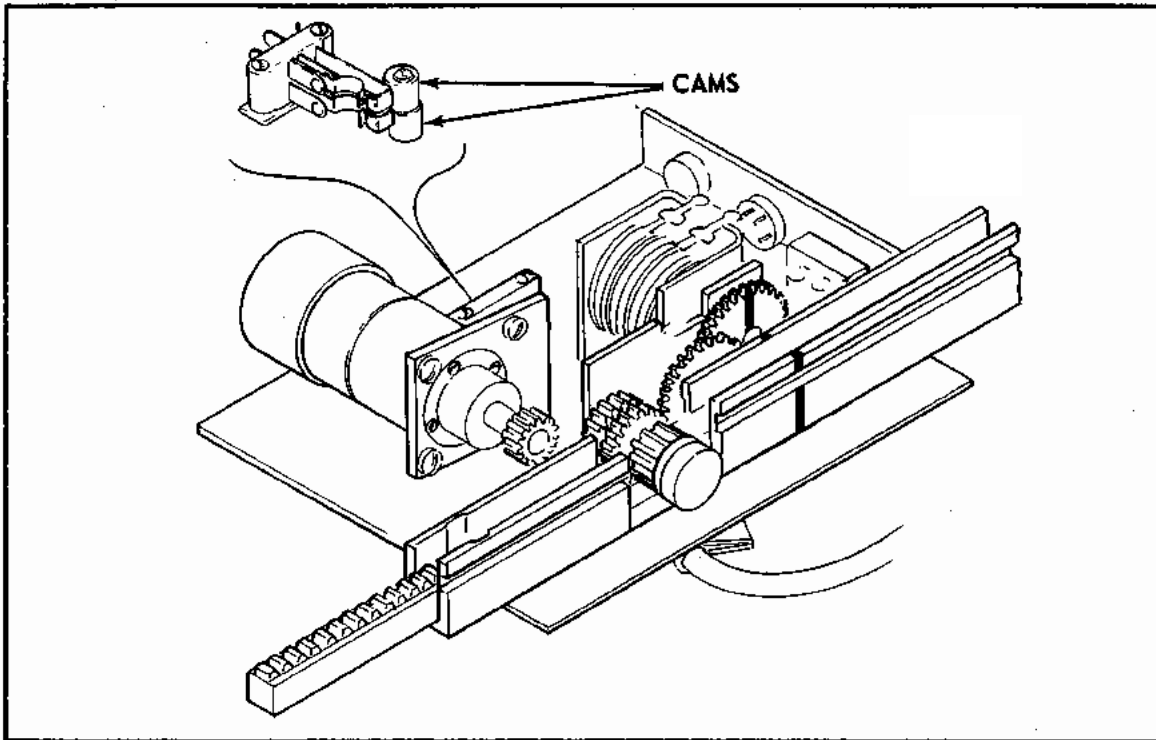

Figure 10-3. Switch Adjustment Cams
**10-5. ADJUSTMENT OF PITCH SERVO SELECTOR SWITCH AND PITCH AUTOPILOT SERVO MOTOR SWITCH. (Refer to Figure 10-3.)**
- a. Switch Adjustment Procedure. (Refer to Figure 10-3.)